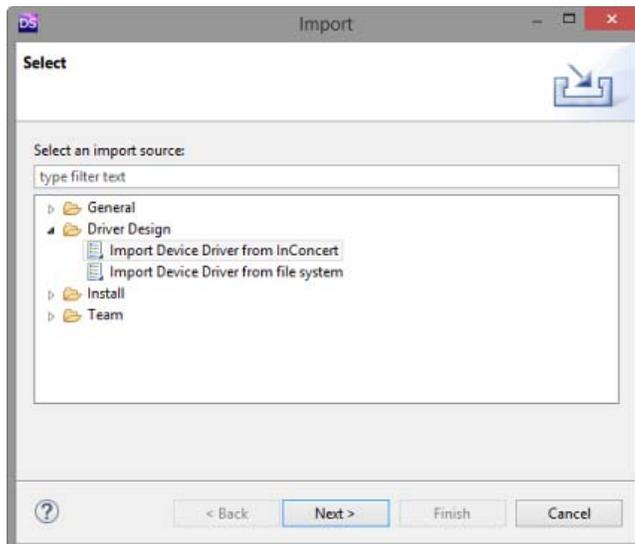

FIG. 16 Import dialog
1. In Driver Design, click **File > Import** to import the v1.1x Device Driver (XDD) file via the *Import* dialog (FIG. 16):